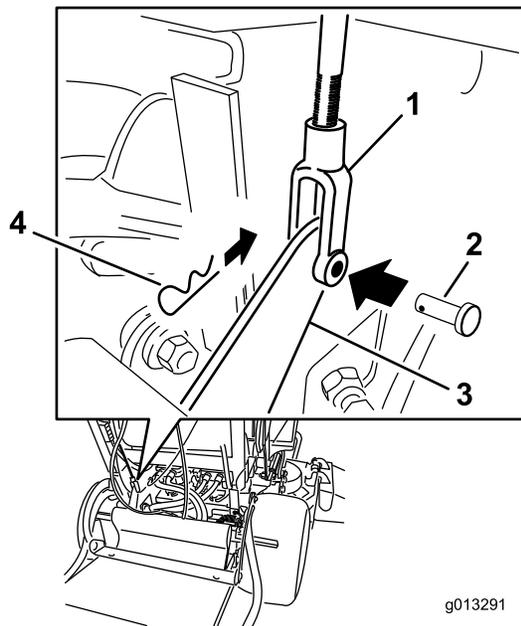

Figure 63
4. To adjust the brake, remove clevis pin and hairpin-cotter pin from the lower-brake lever and yoke (Figure 63).
7. Secure the yoke to the lower-brake lever with the clevis pin and hairpin-cotter pin (Figure 63).